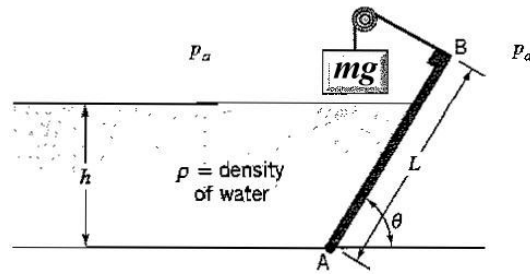

Figure P2.94
2.94 The gate AB shown in Figure P2.94 is rectangular with a length L and a width W . The gate has a frictionless hinge at point A and it is held against a stop at point B by a weight mg . Neglecting the weight of the gate, derive an expression for the water height h at which the gate will start to move away from the stop.